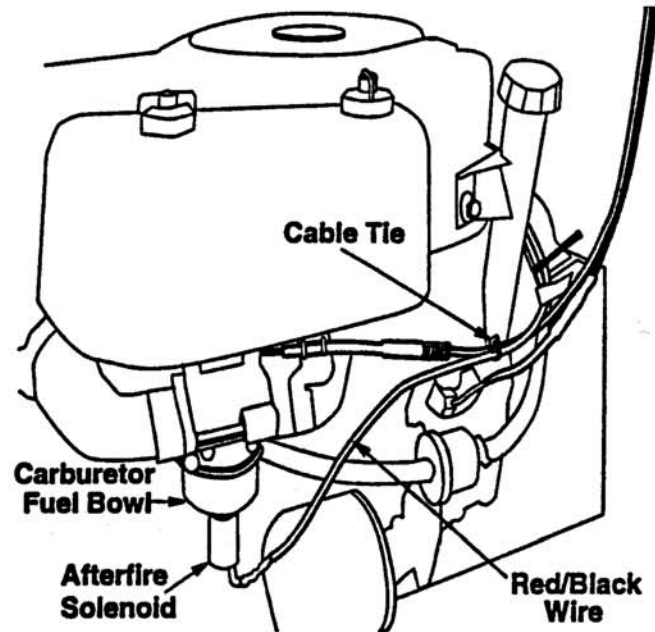

Figure 1.
5. Remove the threaded plug from the bottom of the carburetor fuel bowl. See figure 1.
14. Route red/black wire along existing wire harness (in front of battery tray, moving towards front, left side of tractor). See figure 1.